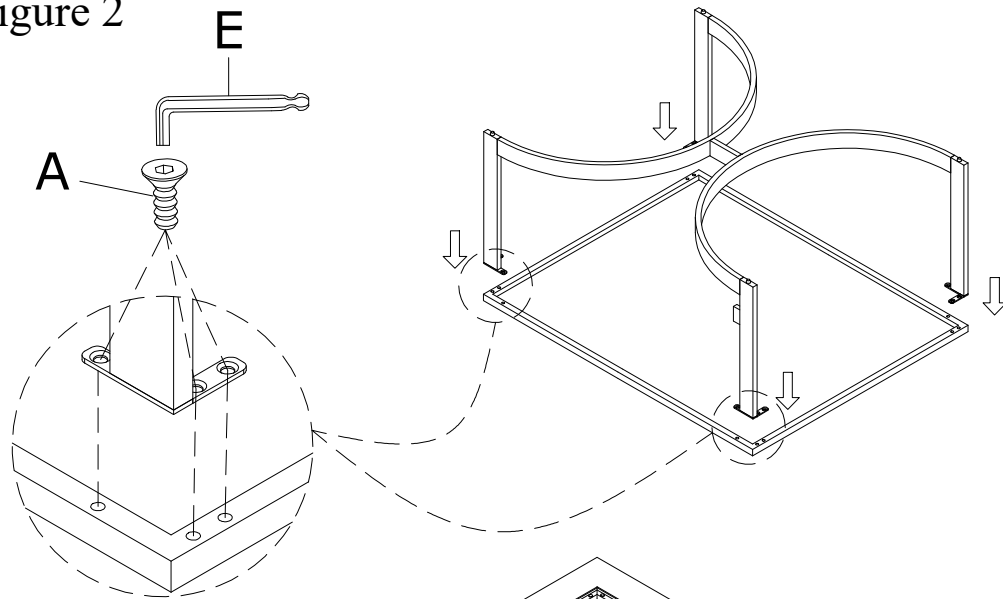

Figure 3
5. Attach the plastic pad (F) on the top glass bracket. As show in Figure 3.